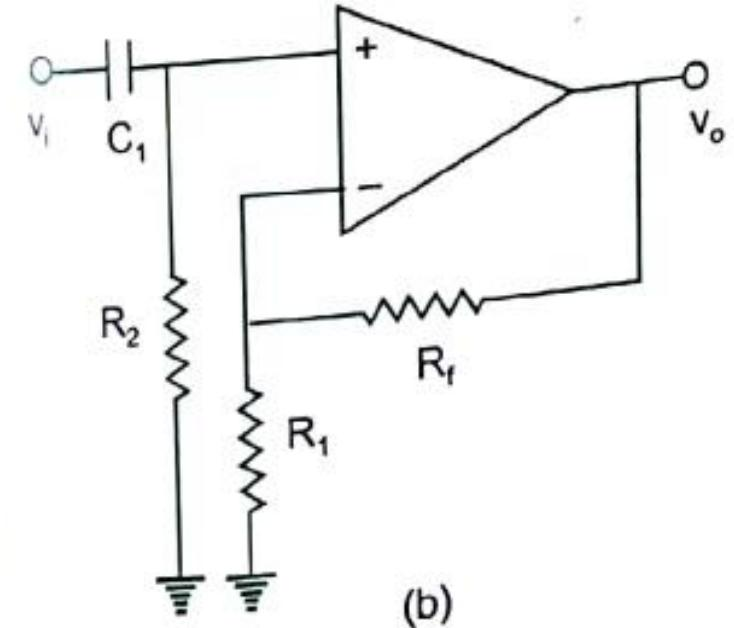

Fig.6. Non-inverting AC amplifier
- Resistor R_2 is added to provide a dc return to ground as shown in Fig.6 .